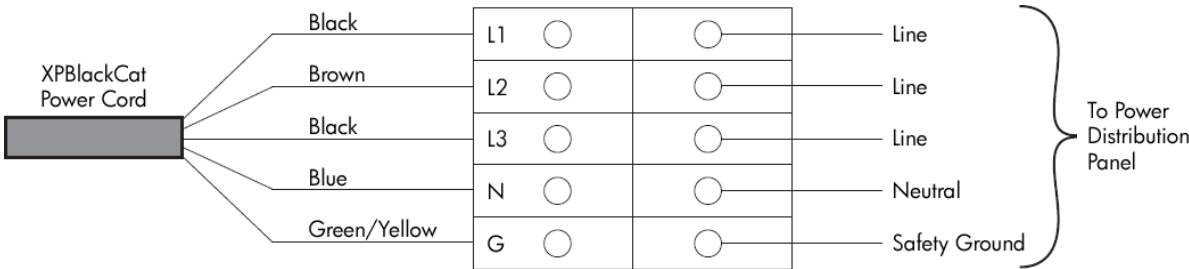

Figure 13. Three-phase power connections for Europe
*Be sure to connect the power cords to the distribution panel as shown in Figure 13. Improper wiring of the neutral conductor may cause damage to the disk array. To reduce the risk of a wrong connection, use a plug and socket that are approved for this disk array. It is your electrician's responsibility to select and install the proper plug.*